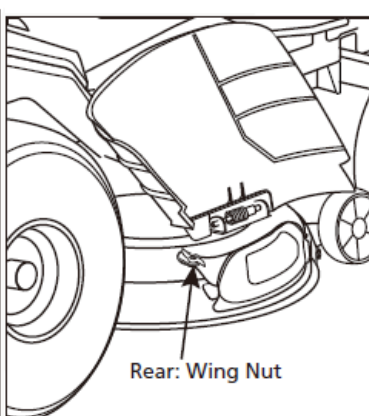

Fig. 8D
3. Insert the mulch cover hole over the threaded rod on the deck. Secure with the provided wing nut. (Fig. 8D)